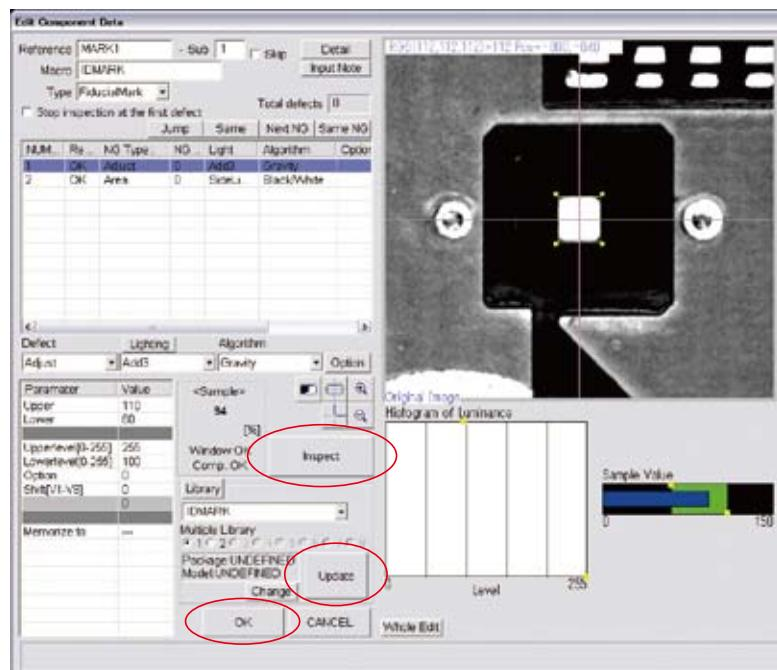
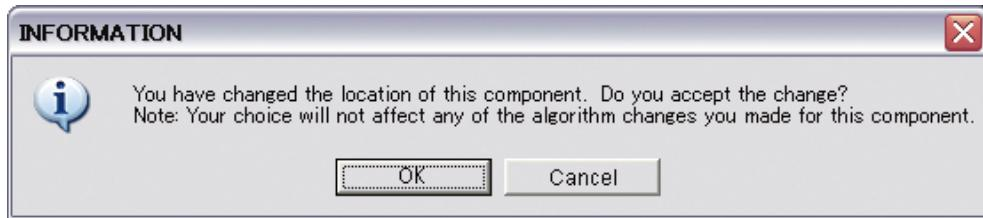

Figure 1-9 Fiducial Mark 1
Figure 1-12 Fiducial Mark 4
Step13: Make fiducial mark data and press **MARK1**. The window shown in Figure 1-9 appears.
Step27: Press **OK** in Figure 1-9 and the dialog shown in Figure 1-12 appears. If CAD data is used, press **Cancel**. If CAD data is not used, press **OK**.